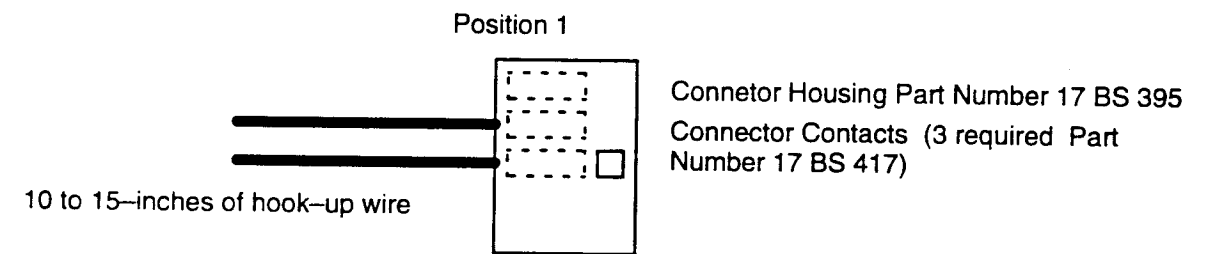

FIGURE 5.6 INSERTION OF GIB PINS
5.5.5 REASSEMBLY OF INNER COLUMN INTO OUTER COLUMN (REFER TO FIGURE 5.6)